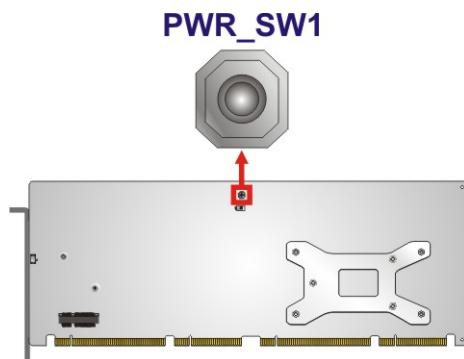

Figure 3-20: Power Button Location
3.2.19 Power Button**CN Label:** PWR_SW1**CN Type:** Push button**CN Location:** See Figure 3-20